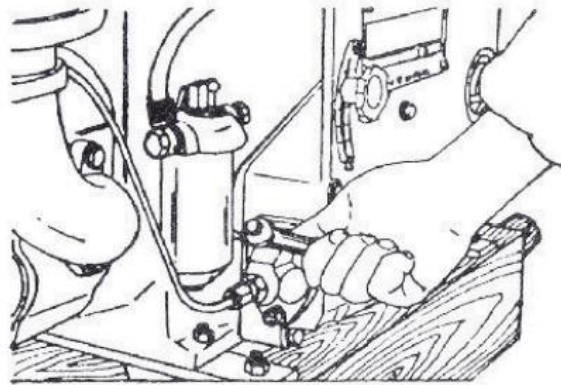

Fig. 4 Soltar o parafuso de retorno na bomba de injeção de combustível para deixar sair o ar, se houver
- Loosen the return screw on the injection pump or loosen the fuel connection of the tubes, so that air, if present, in the fuel piping may leak. When it is observed that the fuel is free of air bubbles, retighten the return screw or the connections (Fig.4).